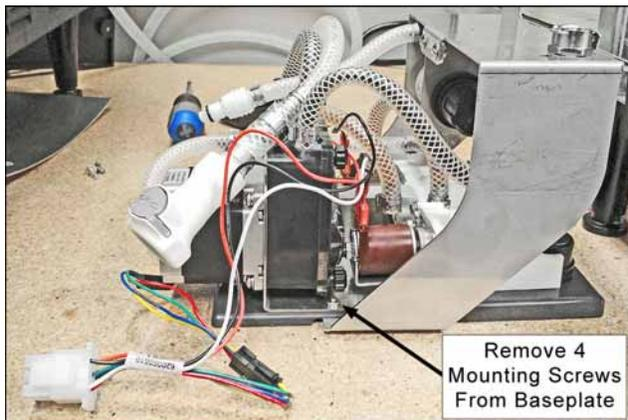

Figure 4-6 - Mixing-Dispensing Assembly Removed
- 4) In the cabinet, unplug the wiring connector from the mixing-dispensing assembly and remove the assembly. Place it on the counter-top (Fig. 4-6).